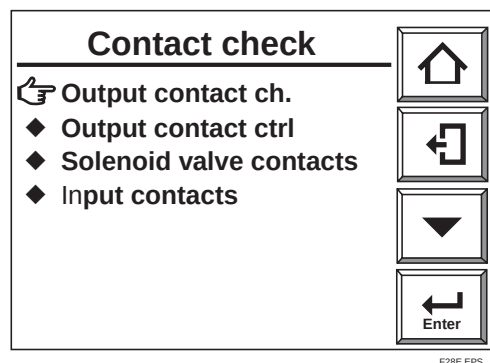
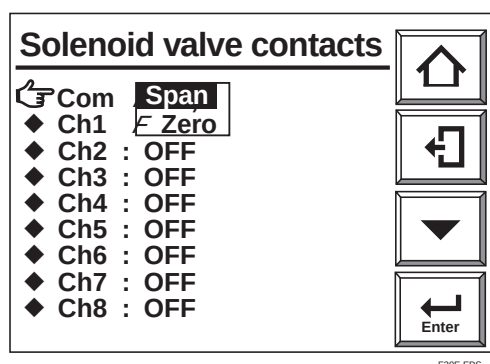
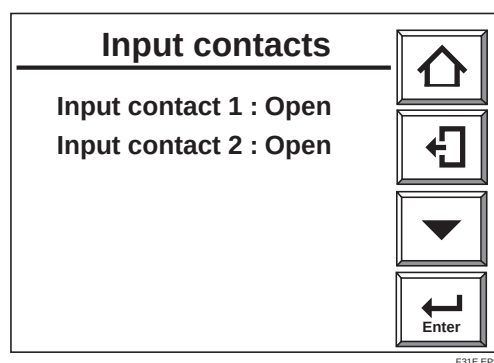

Fig. 7.18 Contact check
Fig. 7.20 Solenoid valve contact select
Fig. 7.21 Contact input check
- 4) The Contact check display shown in Fig. 7.18 allows you to select contacts to check. To check the individual error contacts for channels 1 to 8, select [Output contact ch(Channel contact output)] or to select Function contacts (contacts 1 to 5) select [Output contact ctrl(Common contact outputs)].
- 1) From the Contact check display of Fig. 7.18 select [Solenoid valve contacts]. From the corresponding Solenoid valve contact select display of Fig. 7.20 select the solenoid to check. To check the Autocalibration gas switching valve, select [Com]. Touching the Enter key opens the [Span] (Span valve open) / [Zero] (Zero valve open) selection window. Selecting an output and touching [Enter] allows you to test Open / Close the corresponding solenoid valve.
- 1) From the Contact check display of Fig. 7.18 select [Input contacts] then touch the Enter key. The display of Fig. 7.21 appears.